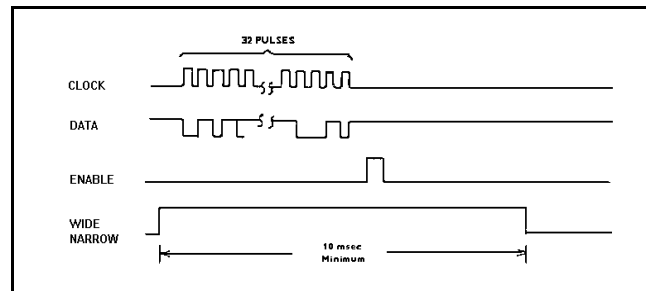

Figure 2 - Clock, Data, Enable, And Wide/Narrow Signals
- g. Verify that the CLOCK, DATA, ENABLE and WIDE/NARROW signals coming from the Control Board are at the proper level and the proper duration (refer to Figure 2).